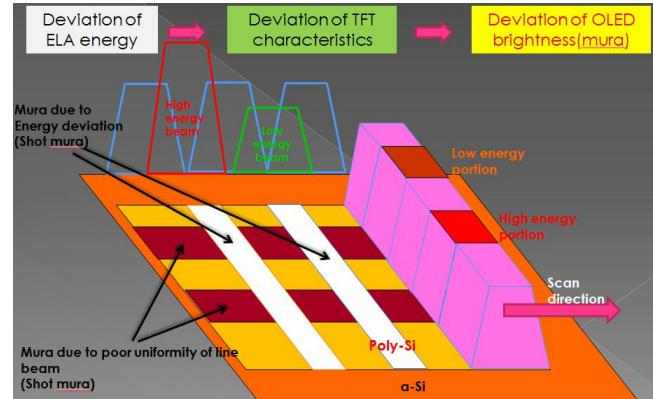

Figure 12. Shot and scan Mura
3.1.2. ELA Mura - shot and scan mura: (figure 12)